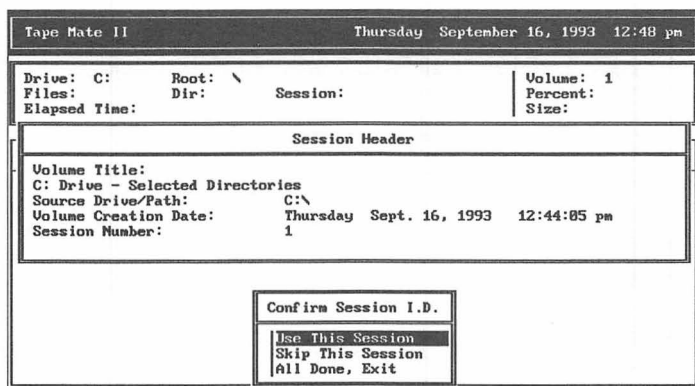

Figure 39 Confirm Session I.D. Menu
- 9 If you didn't select a session in step 5, the Session Header dialog box and Confirm Session I.D. menu appear (see *Figure 39*). The Session Header dialog box displays information on the first session on the volume. If you don't want to restore this session, select **Skip This Session** from the Confirm Session I.D. menu. Information on the next session then appears in the dialog box. When the dialog box displays the session you want restored, select **Use This Session**.
When the session is restored, a summary statement appears—unless you selected a session in step 9 and other sessions follow that session on the volume. In that case, the Session Header dialog box and Confirm Session I.D. menu reappear (see *Figure 39*). If you don't want to restore another session, select **All Done, Exit**. If you select another session, the Restore Parameters dialog box reappears so that you can change the Destination Drive and Destination Path fields for the new session.